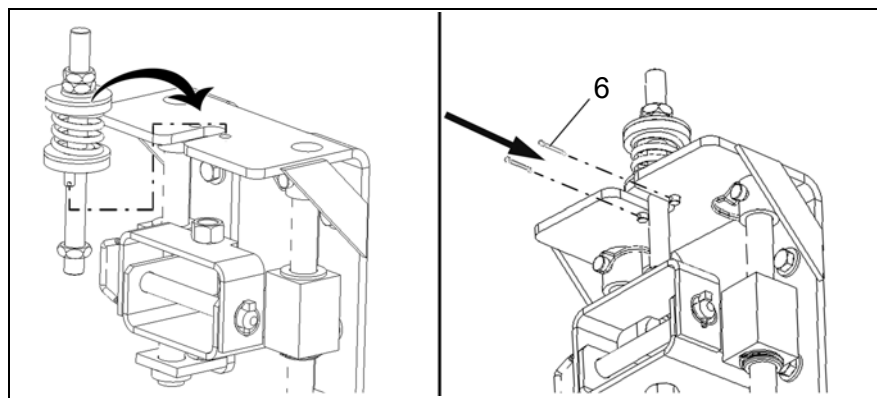

Fig. 10
18. Use hammerlock cotter pins (6, Fig. 10) to secure the tension spring bolt.